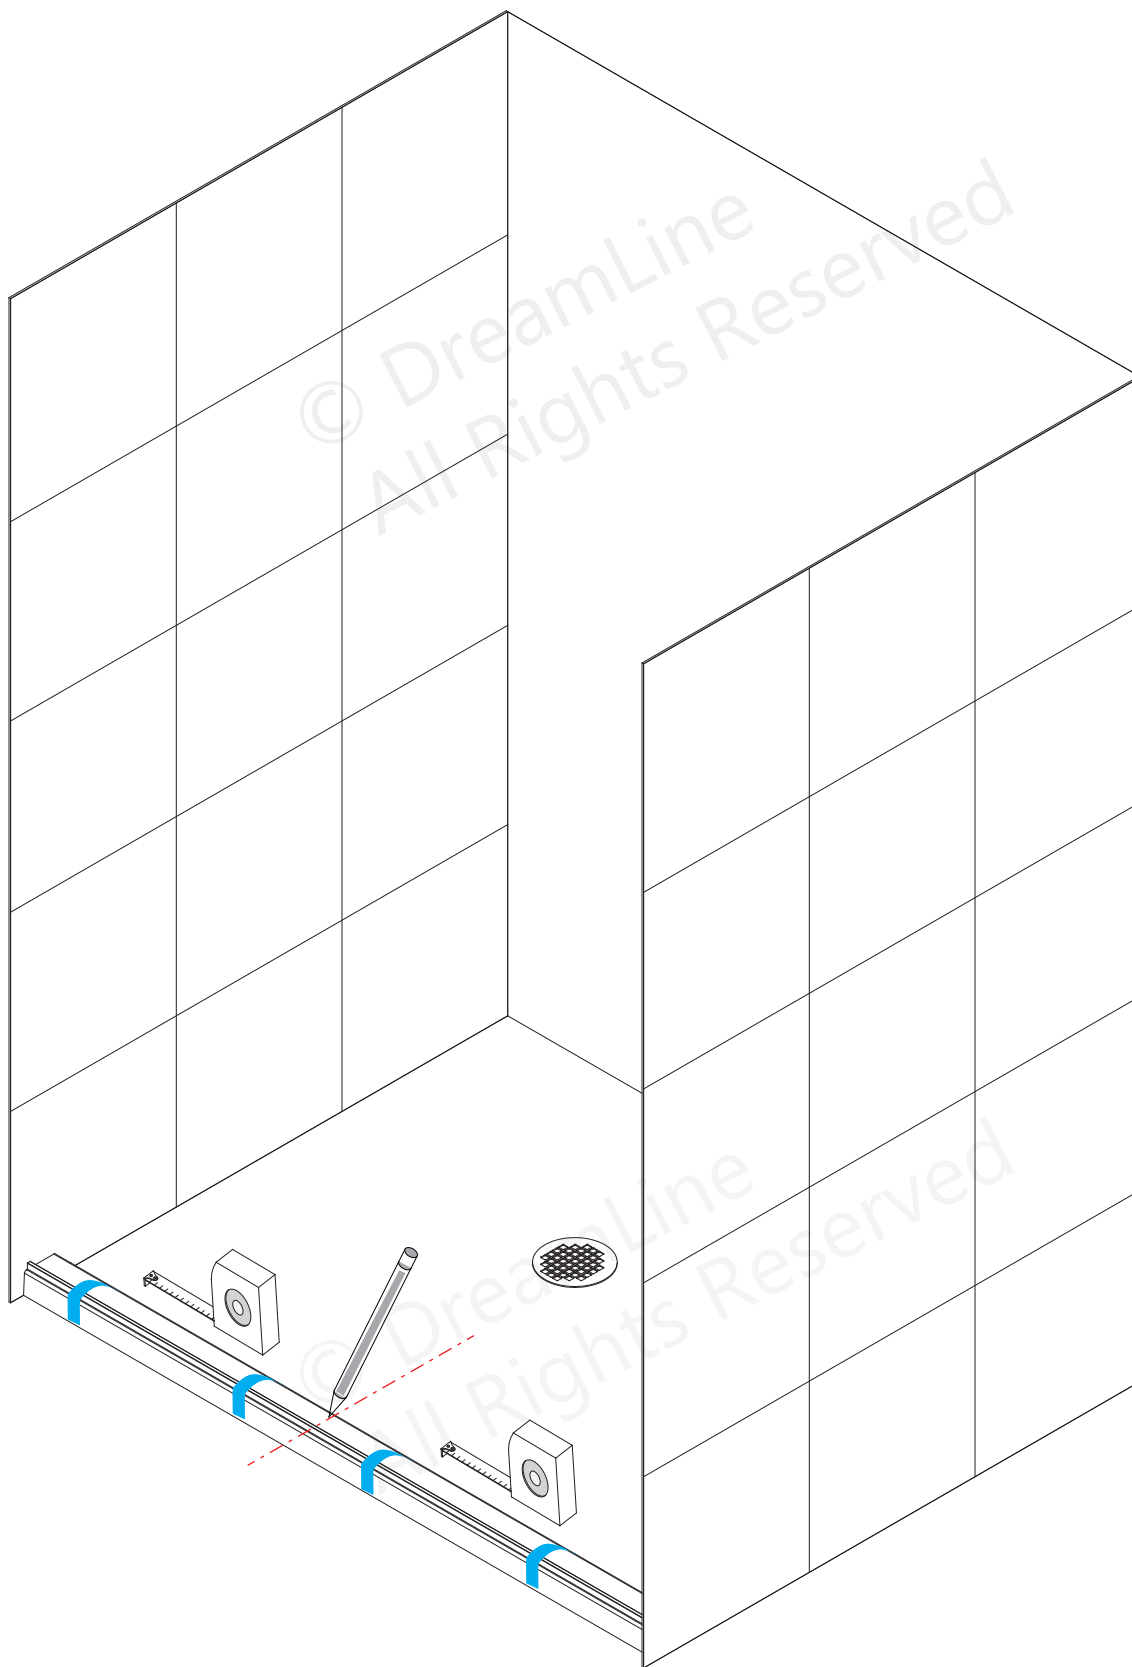

Fig 7
7. Measure across the width of the threshold to locate and mark the center. (Fig 7)